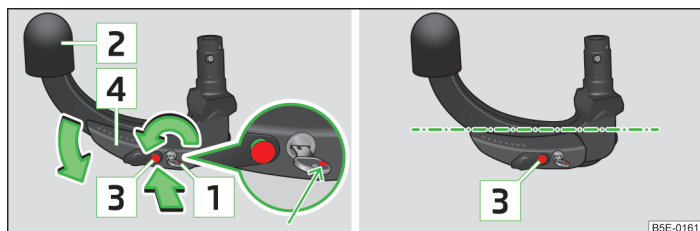

Fig. 153 Setting the ready position/ready position
- Turn the key **1** so that its red marking is visible » Fig. 153.